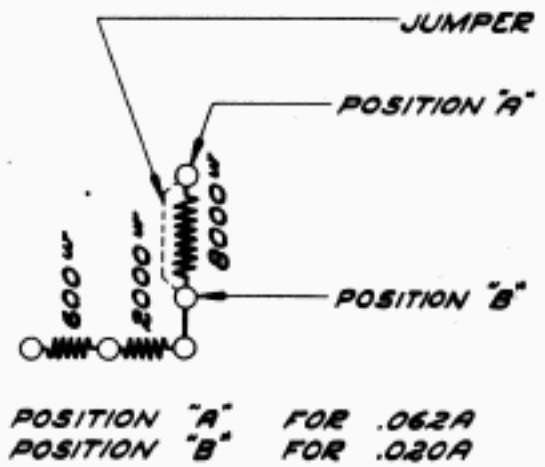

FIGURE 2
4. If the printer is to be used on a .020 ampere circuit, it will be necessary to shift one end of the jumper on the 8000 ohm resistor from position "A" to position "B." (See Figure 2.) The Teletype RY-30 relay should be used for .020 ampere operation. The RY-28 relay is not satisfactory for this application.
3. If the printer set has been operating on a .020 ampere circuit, it will be necessary to shift one end of the jumper on the 8000 ohm resistor from position "B" to position "A." (See Figure 2.)